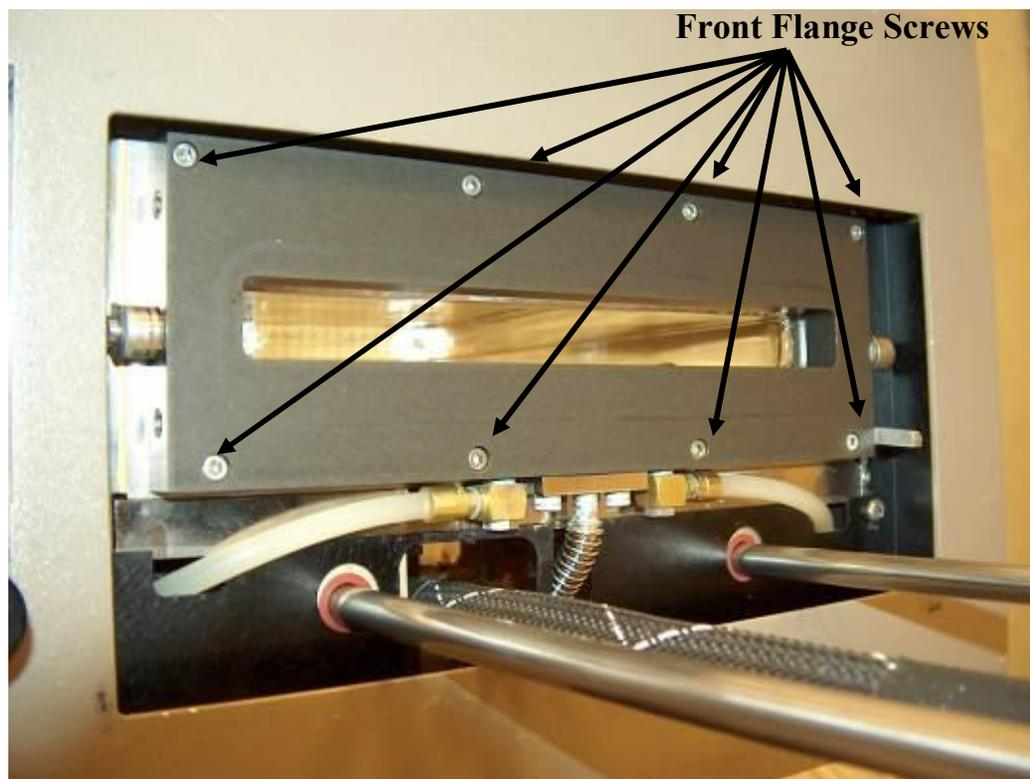

Figure 10-3: *Front Flange Screw Locations*
- Step 7. Carefully remove the eight screws that hold the front flange in place. See Figure 10-3. Put the screws in a safe place. Lay the flange forward onto the rails of the oven door. Be careful not to damage the gas exhaust line.